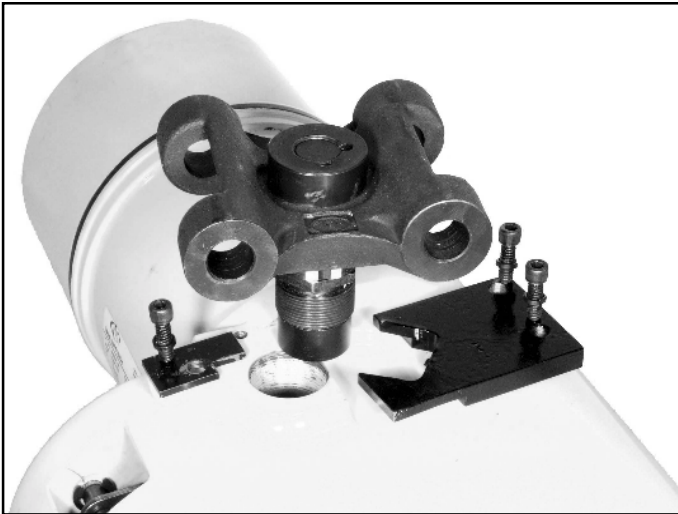

Figure 7-17. Removing Suspension Lug
- (1) On 1/4 through 1 ton models, remove two screws securing anti-rotation bracket and remove bracket. Remove screw securing suspension bushing keeper, and remove keeper. Remove suspension lug using an extra thin 1-1/4" open end wrench to unscrew suspension bushing from frame. (See fig. 7-17).